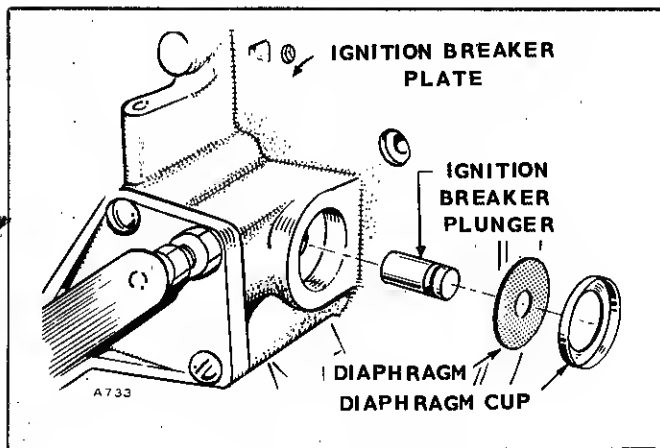

FIGURE 38. DIAPHRAGM & CUP
4. Install the breaker plate. Install the ignition plunger and diaphragm and diaphragm cup (Fig. 38).